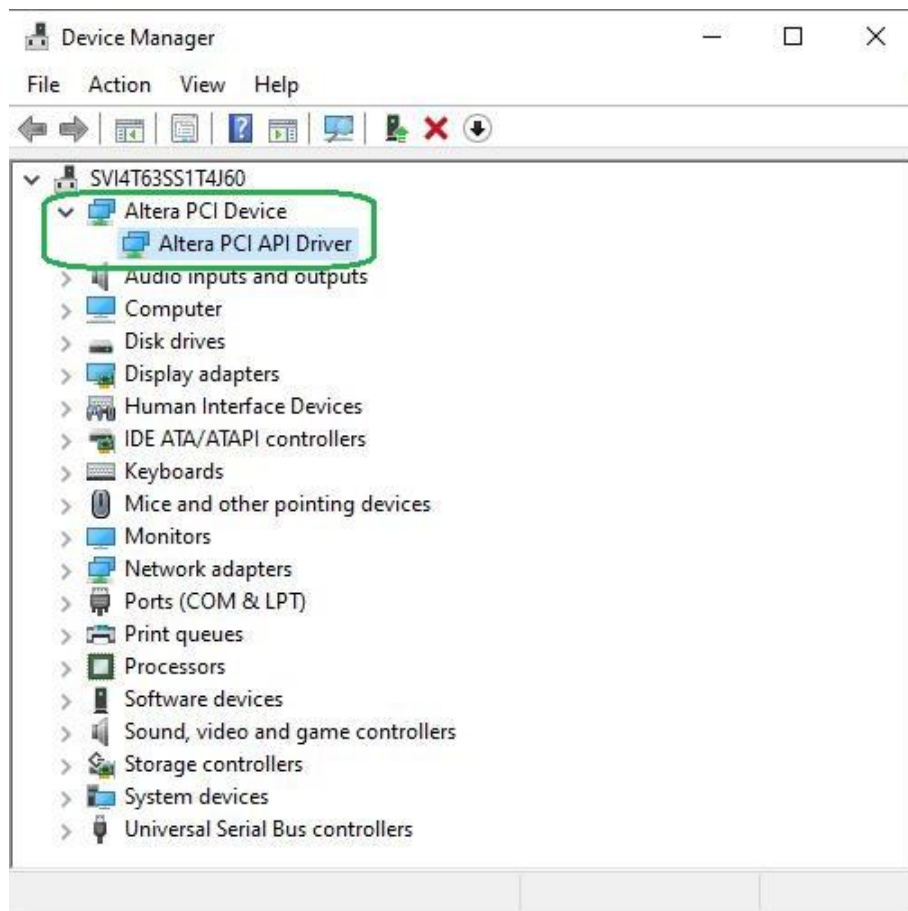

Figure 6-8 Altera PCI API Driver in Device Manager
12. Once the driver is successfully installed, users can see the **Altera PCI API Driver** under the device manager window, as shown in **Figure 6-8**.